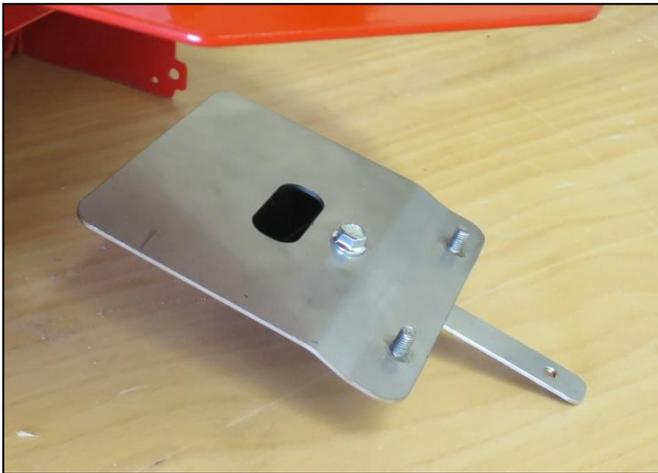

Fig.: 33
- Install the impact point adjustment and the adapter plate of the disc spreader with the enclosed flange nuts (BN14476-M6), a hexagon bolt with flange (AAN13-M6x16) and the washers (BN1075-M6), as shown in Fig.: 33 and Fig.: 35.